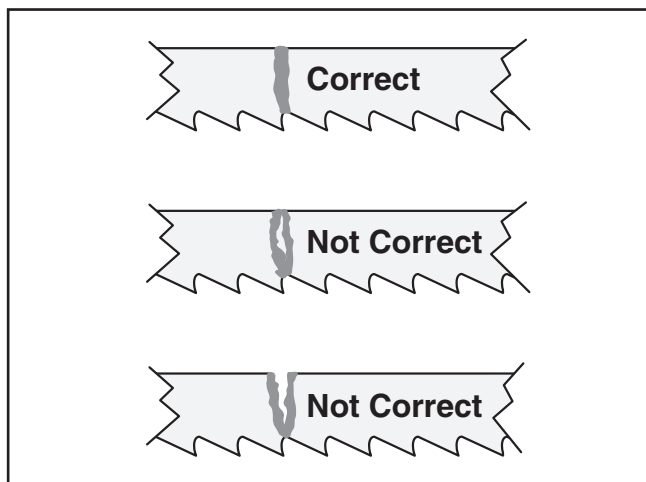

Figure 38. Blade welded joint examples.
10. Inspect the weld. The welded joint should be even across the width of the blade with no gaps (see **Figure 38**).